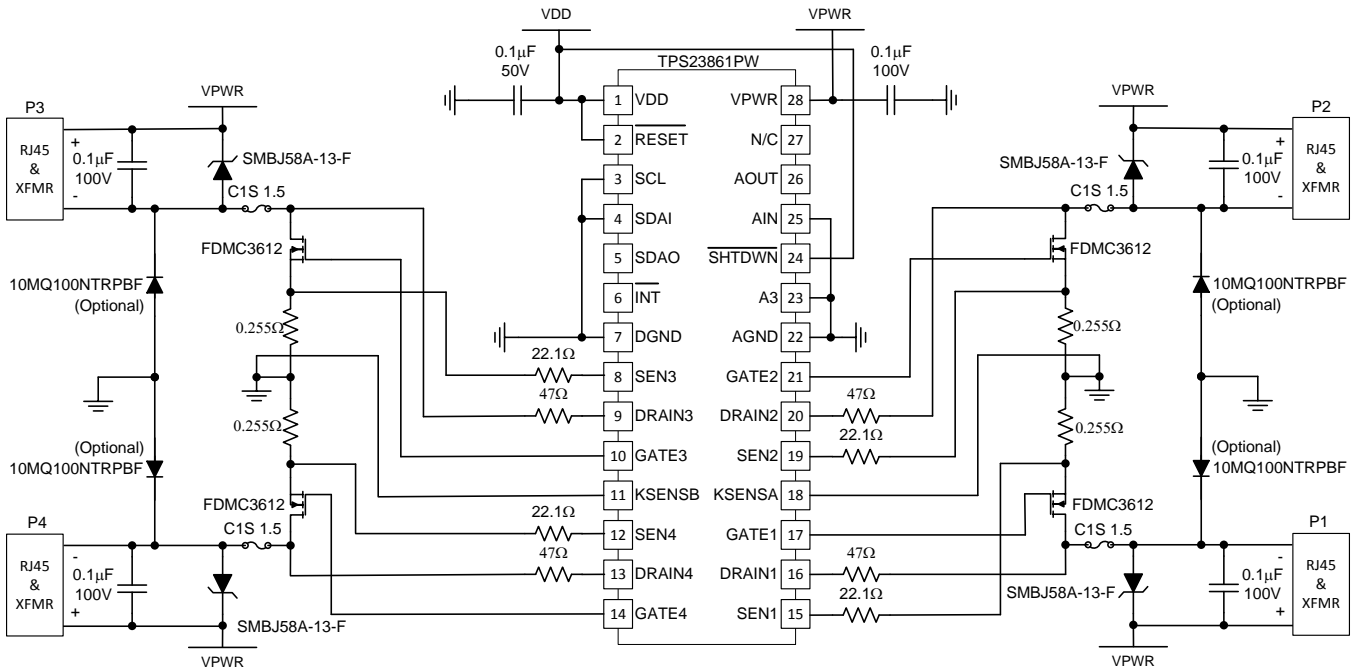

Figure 43. Automatic 4-Port Operation Schematic
Power-over-Ethernet (PoE) is a means of distributing power to Ethernet devices over the Ethernet cable using either data or spare pairs. PoE eliminates the need for power supplies at the Ethernet device. Common applications of PoE are security cameras, IP Phones and PDA chargers. The host or mid-span equipment that supplies power is the Power Source Equipment (PSE). The load at the Ethernet connector is the Powered device (PD). PoE protocol between PSE and PD controlling power to the load is specified by IEEE Std 802.3at-2009. Transformers are used at Ethernet host ports, mid-spans and hubs, to interface data to the cable. A DC voltage can be applied to the center tap of the transformer with no effect on the data signals. As in any power transmission line, a relatively high 48 V is used to keep current low, minimize the effect of IR drops in the line and preserve power to the load. Standard POE delivers approximately 13 W to a type 1 PD, and 25.5 W to a type 2 PD. Figure 43 shows the overview schematic of a POE port.
The schematic of Figure 43 depicts automatic mode operation of the TPS23861, providing turnkey functionality ready to power PoE loads. No connection to the I²C bus or any type of host control is required. In Figure 43 the TPS23861 automatically: